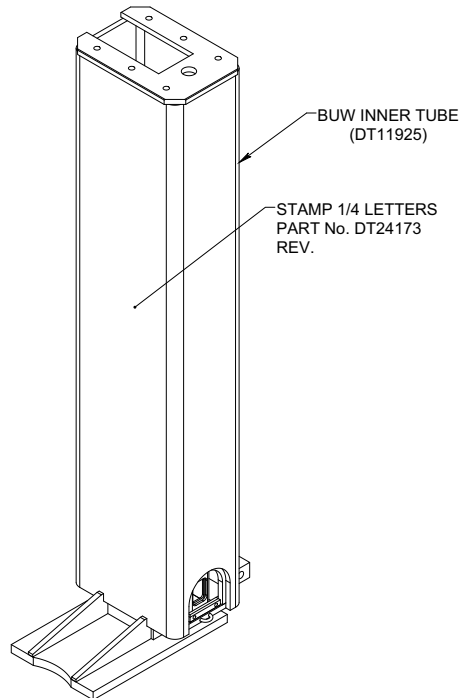

Figure 2: BUW Inner Tube modification (DT11925)
- After modification to Inner Leg, stamp P/N DT24173 as shown in Figure 2.